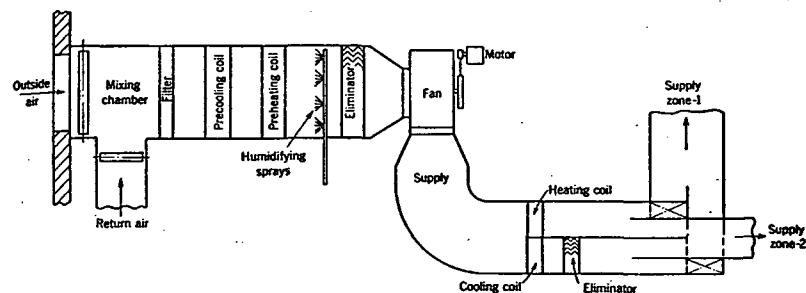

FIG. 3. BLOW-THROUGH SYSTEMS WITH COILS AND MIXING DAMPERS
3. Blow-through system with heating and cooling coils and mixing dampers (Fig. 3). This is used where several different zones are served from one central system and the conditioning of the entering air for each zone is obtained by mixing varying quantities of air after passing through the heating and cooling coils.